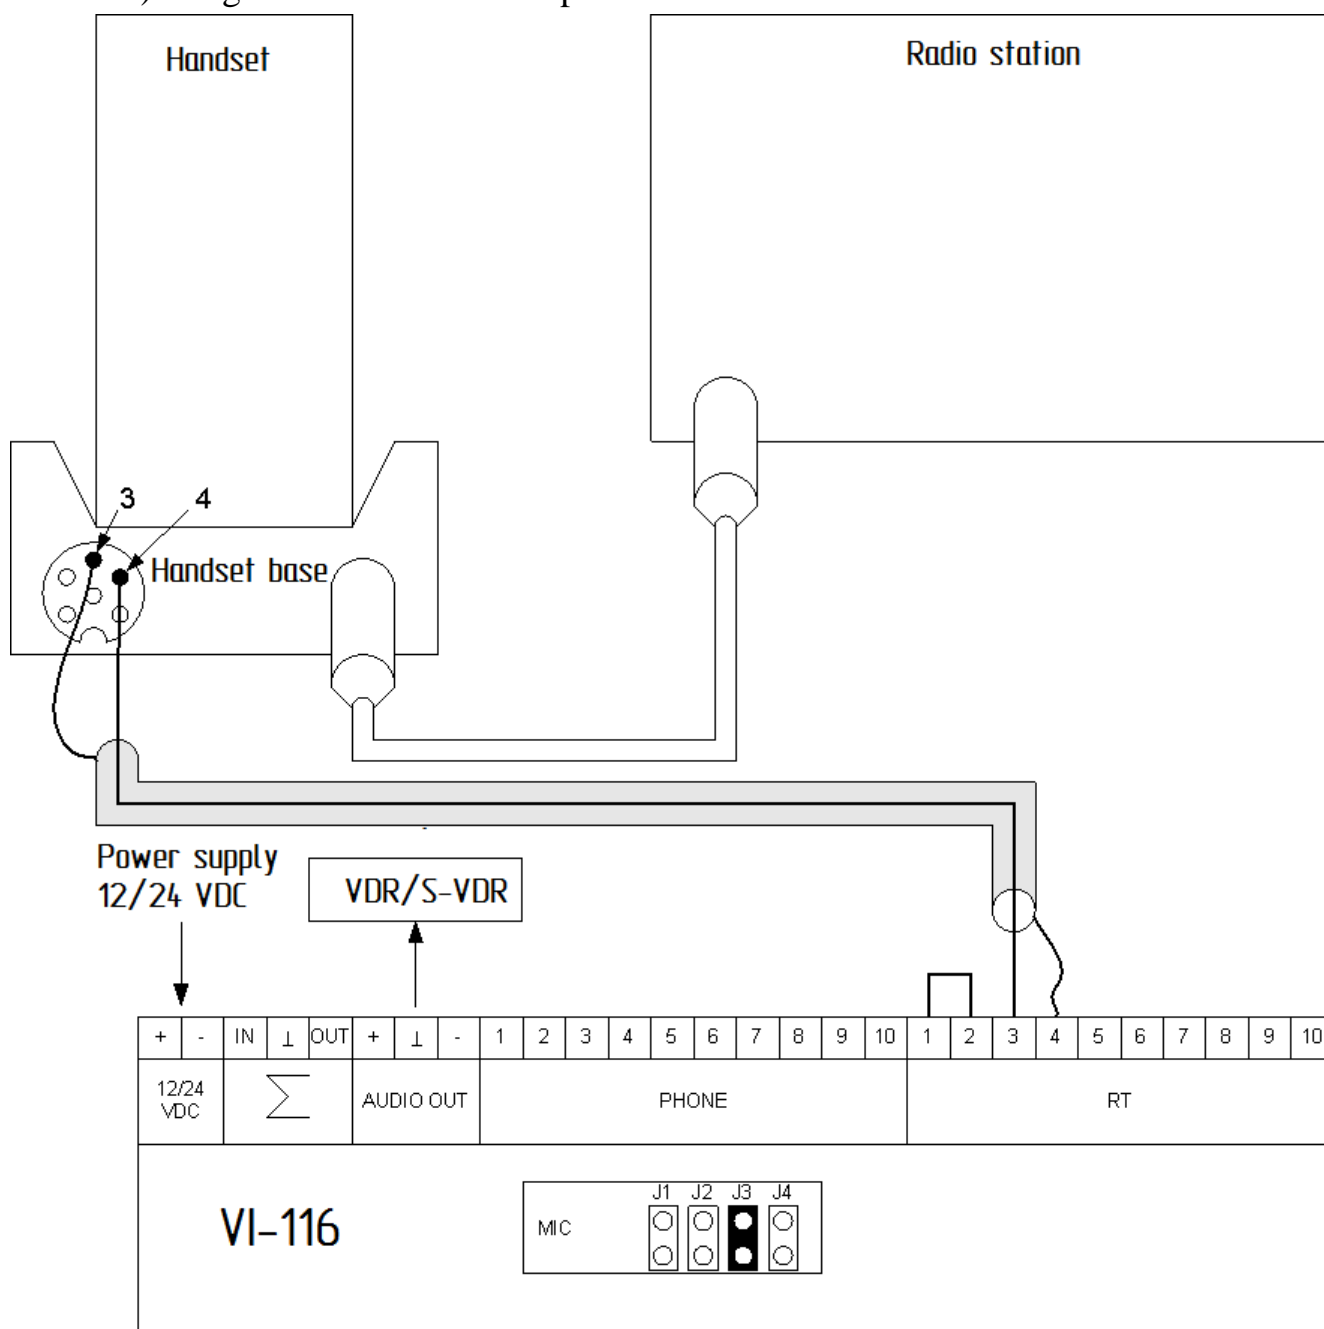

Figure 4 – Connection to SCANTY radio station
- connect the Product to the duplicate connector of the base with single core shielded wire (see Figure 4);